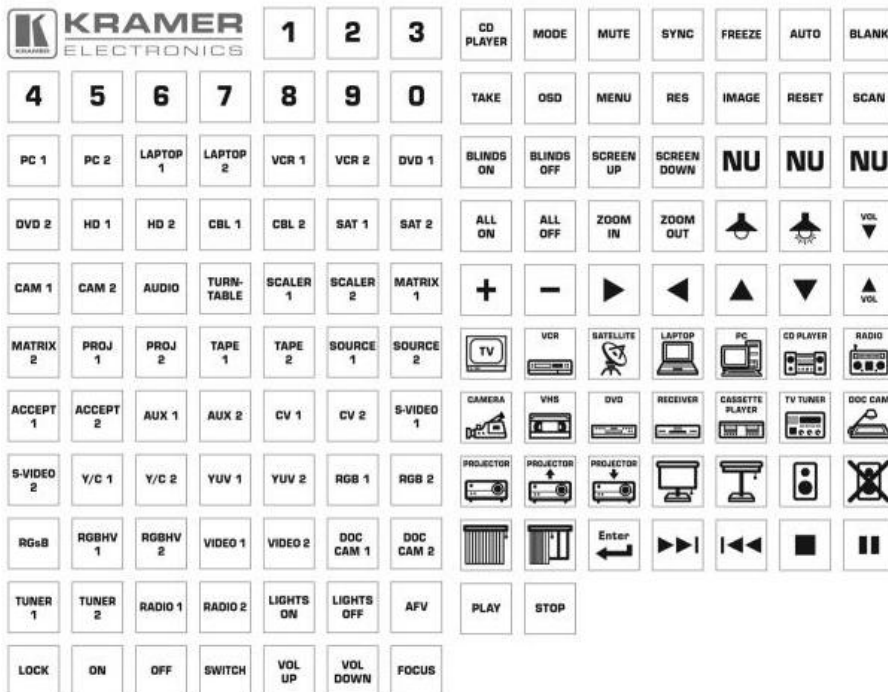

Figure 2: Sample Button Label Sheet
2. Extract the required button labels from the sheet of labels supplied (see Figure 2).
Figure 2 illustrates a sample button label sheet.